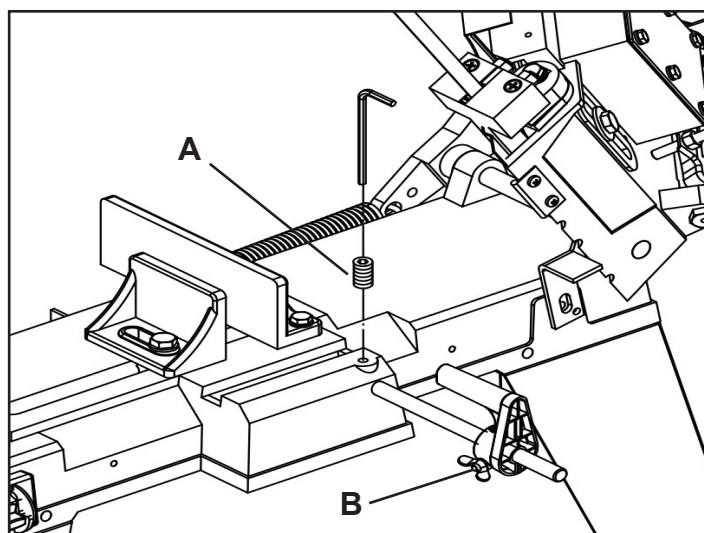

FIGURE 10
1. Install the work stop shaft into the side of the band saw. Lock it in place by tightening the set screw (A-Fig.10).
2. Slide the work stop onto the end of the shaft and clamp it into position with the wing nut and hex head bolt. (B-Fig.10).